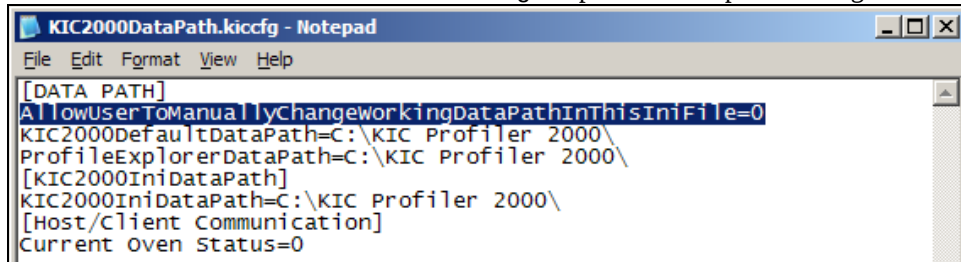

Figure 231
2. Double-click on the KIC2000DataPath.kiccfg to open it in Notepad. See Figure 231.